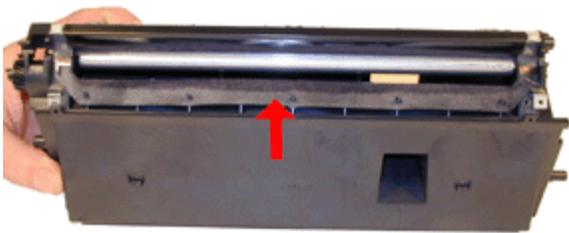

FIGURE 25
20. Place the doctor blade foam back in its proper position. See Figure 25